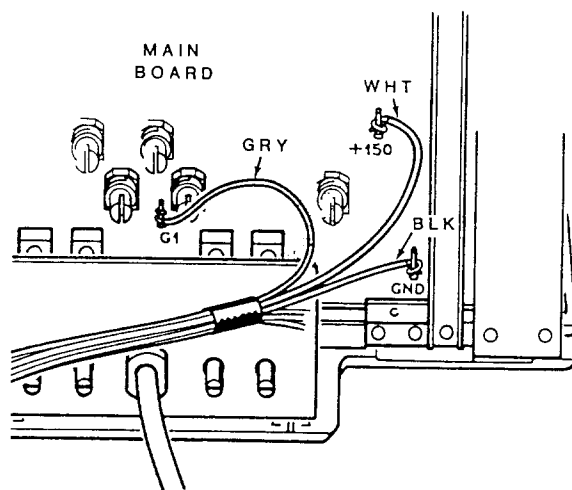

Figure 3-28. Main Board Wire Disconnects
7. Refer to Figure 3-28 to locate the cables that are still holding the main board to the monitor. Label these wires and the main board terminals so that they can be identified during reassembly. Remove these wires from the main board terminals. Be sure to route these wires and attach them to the original locations during reassembly.